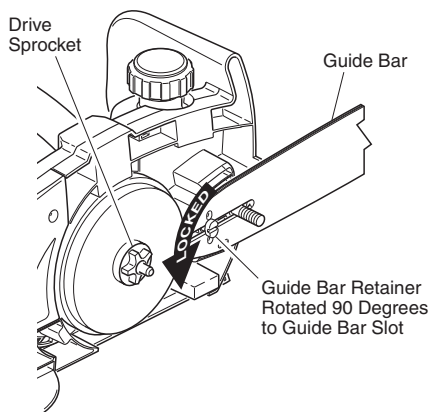

Figure 5 - Locking Guide Bar Retainer
5. Rotate guide bar retainer 90 degrees as shown in Figure 5.